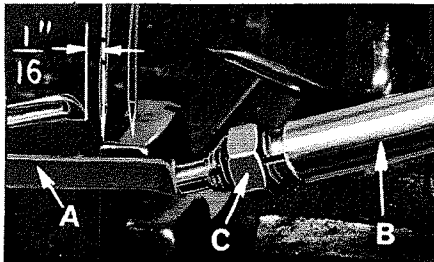

Fig. 5
At this point, insert lower looper (A, Fig. 5) into bar (B). With lower looper at left end of its stroke, set looper point  $1/16$  inch from the center of left needle (Fig. 5), using looper gauge No. 21225-1/16. Do not have lower looper deflecting needle. Tighten nut (C).